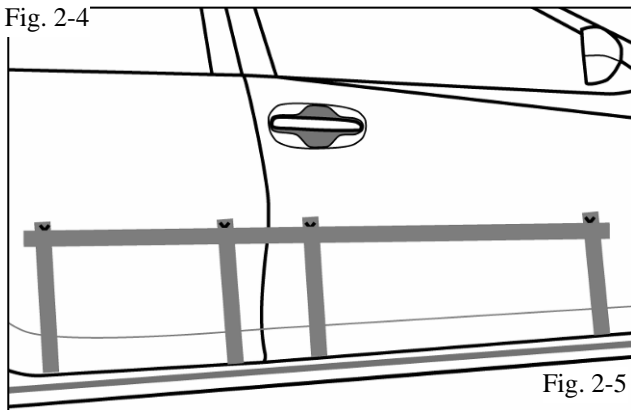

Fig. 2-5
- ⚠ (d) Apply a strip of tape along the length of the doors as shown in Fig. 2-5 connecting the marks on the vertical pieces of tape. Make certain that the top edge of the tape aligns with the marks on the vertical pieces of tape.